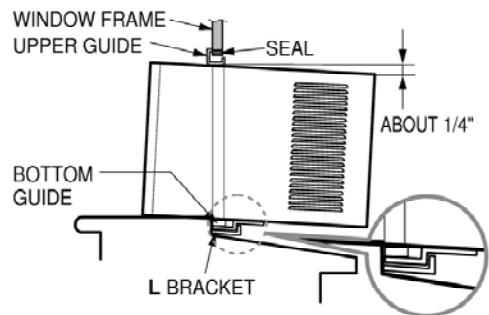

Figure 30
- While steadyng the air conditioner, carefully bring the window sash down behind the upper guide of the air conditioner, as shown in Figure. 30.